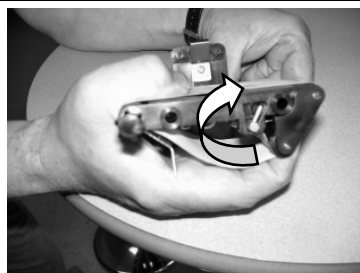

Figure 14b
- **Figure 14b** - Hold the carriage in your hand as shown, using your fingers release the tension on the filter belt by pulling back the tension arm in the direction indicated by the arrow, hold whilst moving to the next step